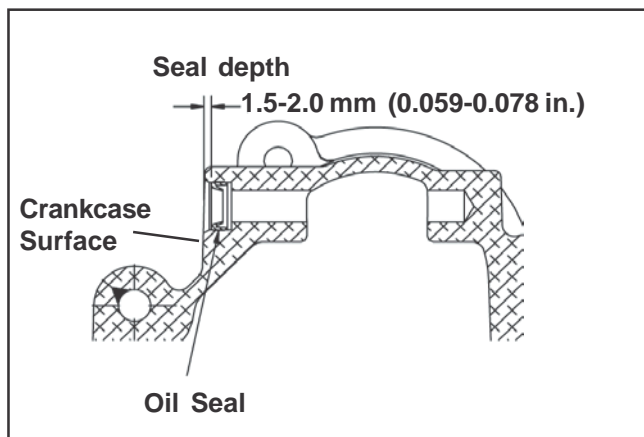

Figure 10-8. Governor Shaft Seal Depth.
1. Lightly oil the lip and outside diameter of the new governor cross shaft seal. Install the seal into the crankcase to the depth shown in Figure 10-8.